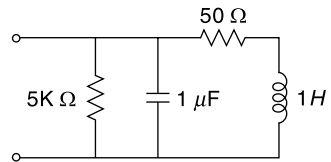

Fig. 5.59 Circuit diagram for Ex. 5.84
5.84 For the network shown in Fig. 5.59 determine the resonant frequency and input admittance at resonance.